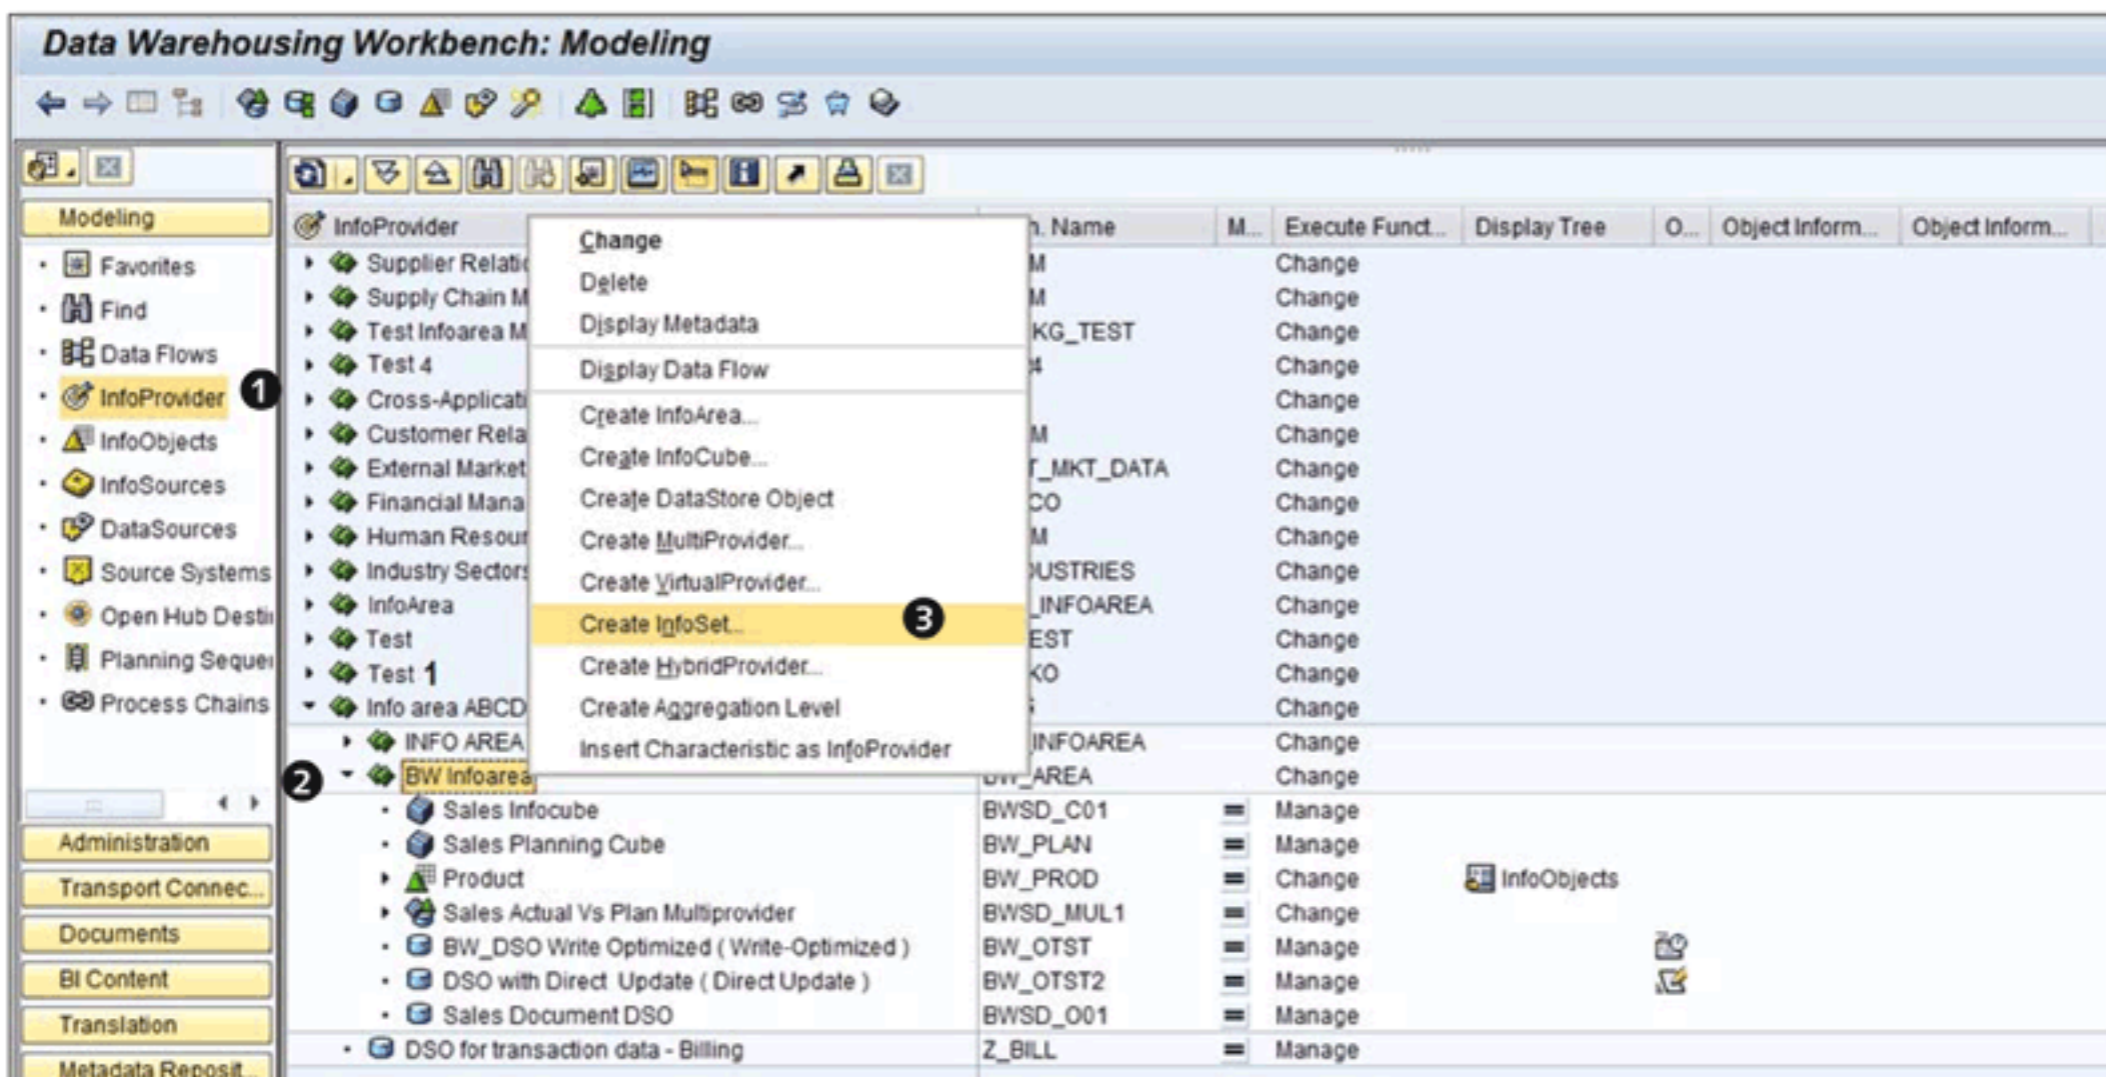

Figure 6.19 Creating the InfoSet
To begin, start the DWW using Transaction RSA1. Under MODELING in the navigation section, select INFOPROVIDER, as shown in ❶ of Figure 6.19. InfoSets are created under an InfoArea. From the tree section of the screen, select the InfoArea to which you want to attach your InfoSet (❷). In this example, InfoArea BW_AREA is selected.